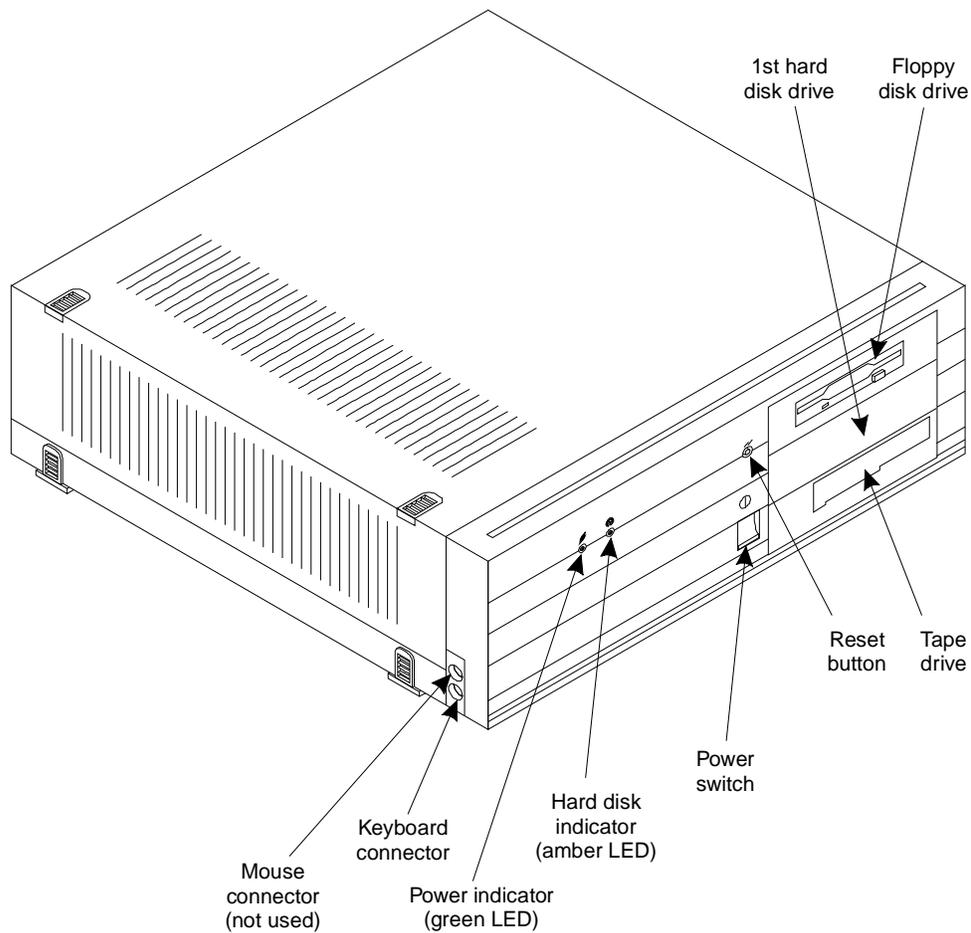

Figure 3-2. Keyboard Connector Location - MAP/5 Front View
1. Plug the keyboard cable into the round socket on the side of the system unit. The socket is marked with a picture of a keyboard. See Figure 3-2.
Figure 3-2 illustrates the front of the MAP/5 after the front sliding panel has been removed.